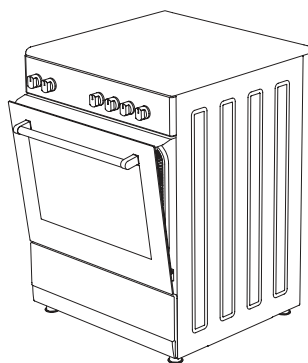

Figure 29
4. And then secure the safety panel in between oven and front cover by gently closing the cover. (Figure 29)